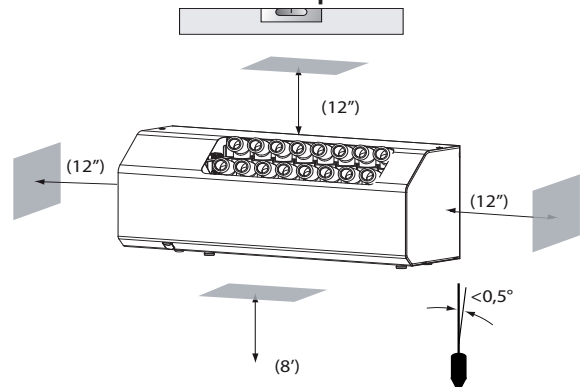

Fig. 1.b
- Position humidifier horizontally using a level, observing the minimum clearances in (see Fig. 1.b) to ensure correct flow of supply air and allow for required maintenance on both sides of humidifier.